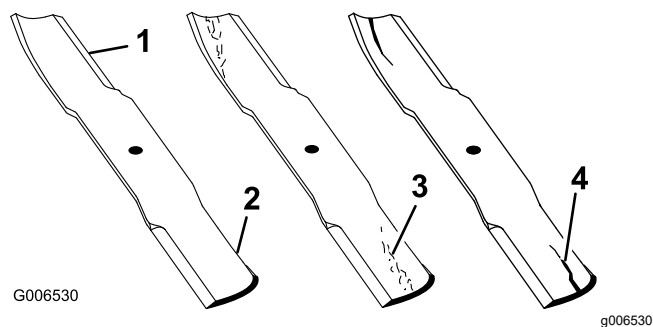

Figure 48
1. Inspect the cutting edges (Figure 48).
4. If you notice any cracks, wear, or a slot forming in this area, immediately install a new blade (Figure 48).